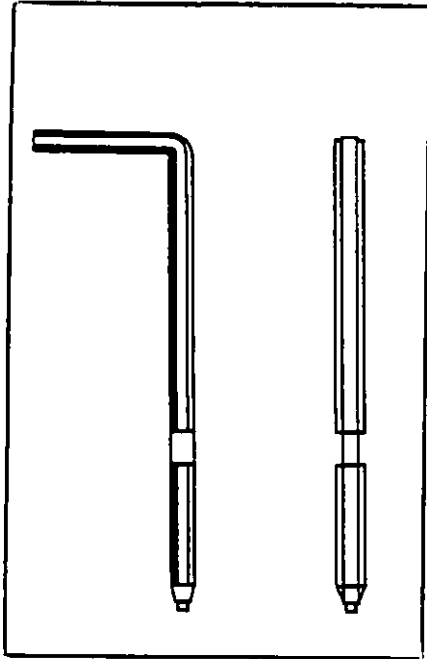

Figure 26
3.4.1.4 Combination Changing Procedure. Changing the combination requires access to the existing combination and a La Gard Group 1R change key (see Figures 26 and 27). To change the combination, the lock must first be opened using the present combination. With the bolt fully retracted (lock open), verify that the dial stops between 90 and 100 on the OPENING index, and then proceed as follows: